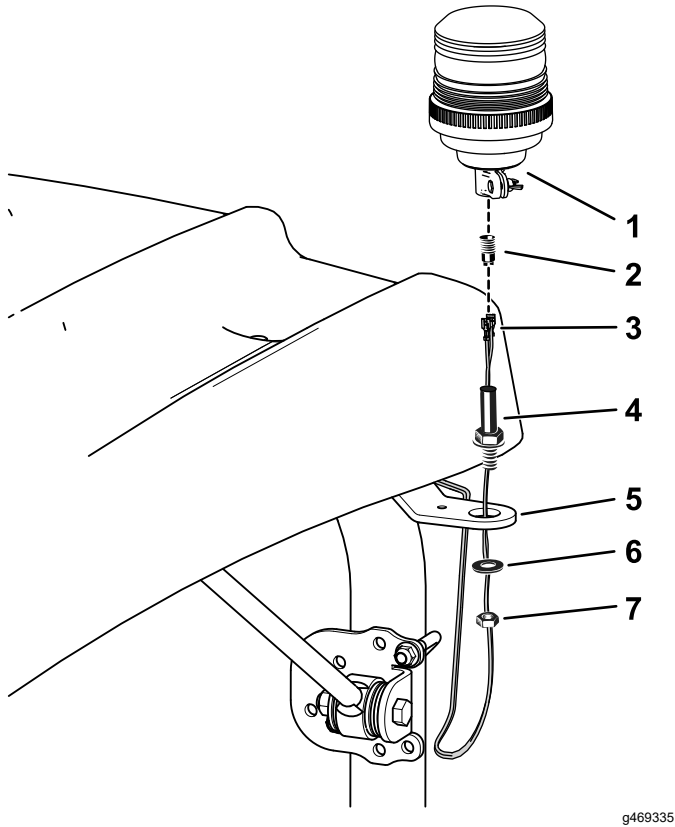

Figure 10
Note: The beacon connector can be threaded out of the beacon socket for connection (Figure 10).
- Assemble the beacon to the bracket and install the beacon assembly as shown in Figure 10.